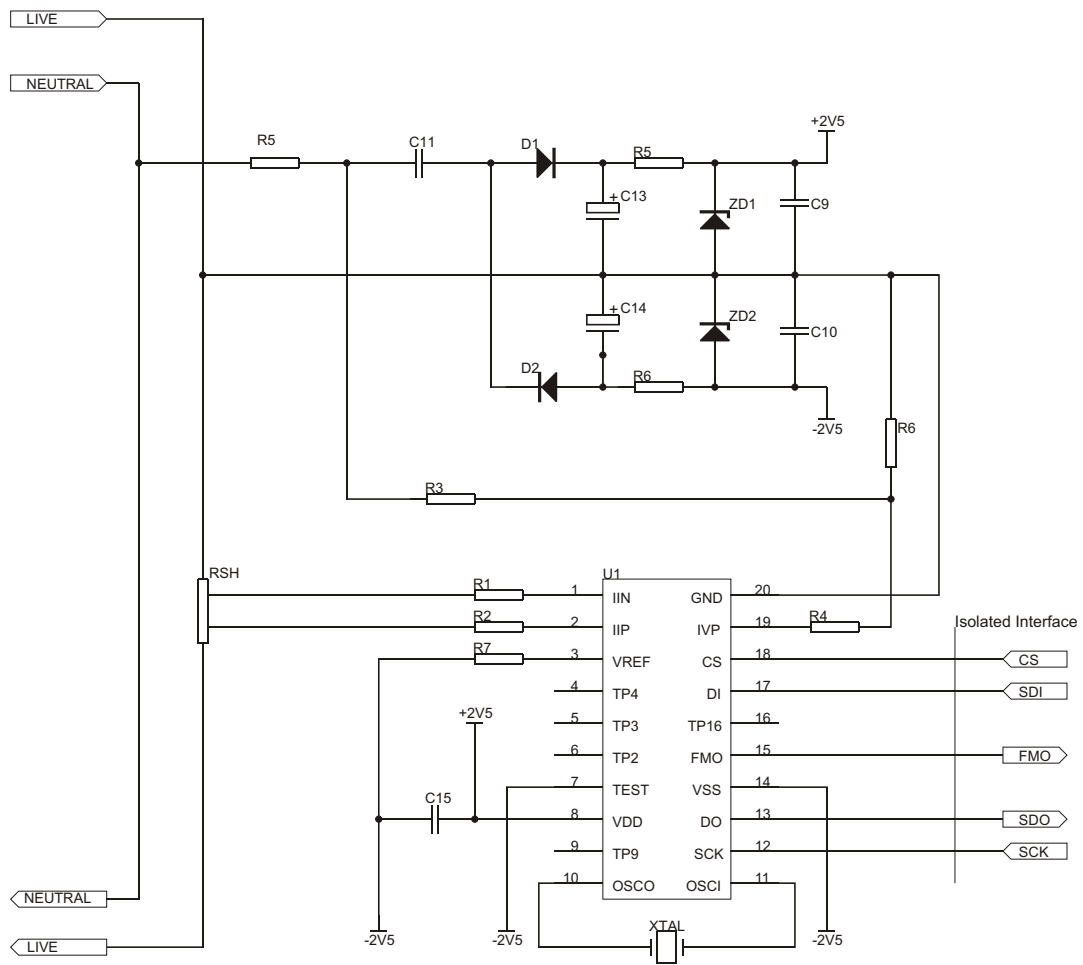

Figure 6: Application Circuit using a Shunt Resistor for Current Sensing
In the Application Circuits (Figure 6 and 7), the components required for power metering application are shown.
In Figure 6 a shunt resistor is used for current sensing. In this application, the circuitry requires a +2.5V, 0V, -2.5V DC supply.
**Parts List for Application Circuit: Figure 6**